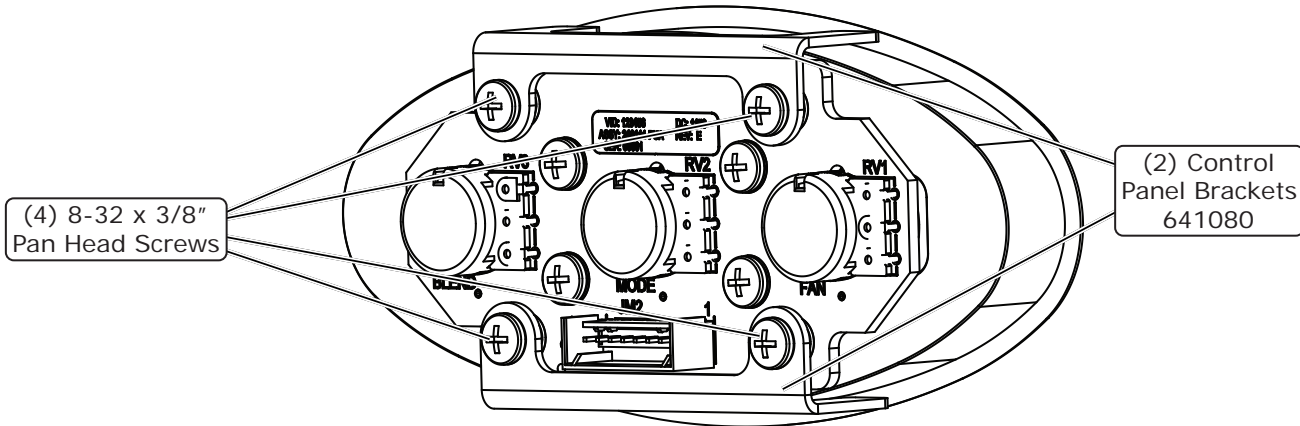

Figure 1
1. Remove the (4) 8-32 x 3/8" pan head screws and (2) control panel brackets from the rear of the control panel (See Figures 1 and 2, below).